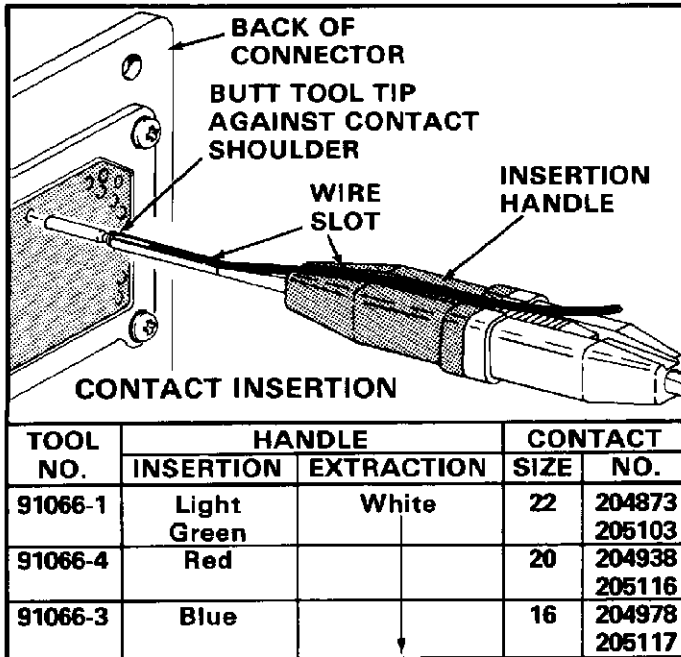

Fig. 1
The AMP Insertion/Extraction Tools listed in Figure 1 are designed for contacts that are used in AMP RM and RME ARINC Connectors. Read these instructions thoroughly before starting.
Each tool handle has two color-coded halves. The white half contains the extraction tip and the other half contains the insertion tip. The color of the insertion tip half indicates the applicable contact size. See chart in Figure 1.
3. Slide the tool tip over the wire barrel of the contact until it butts against the shoulder of the contact as shown in Figure 1.